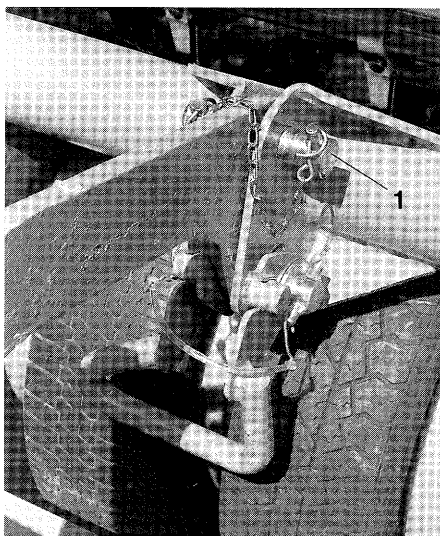
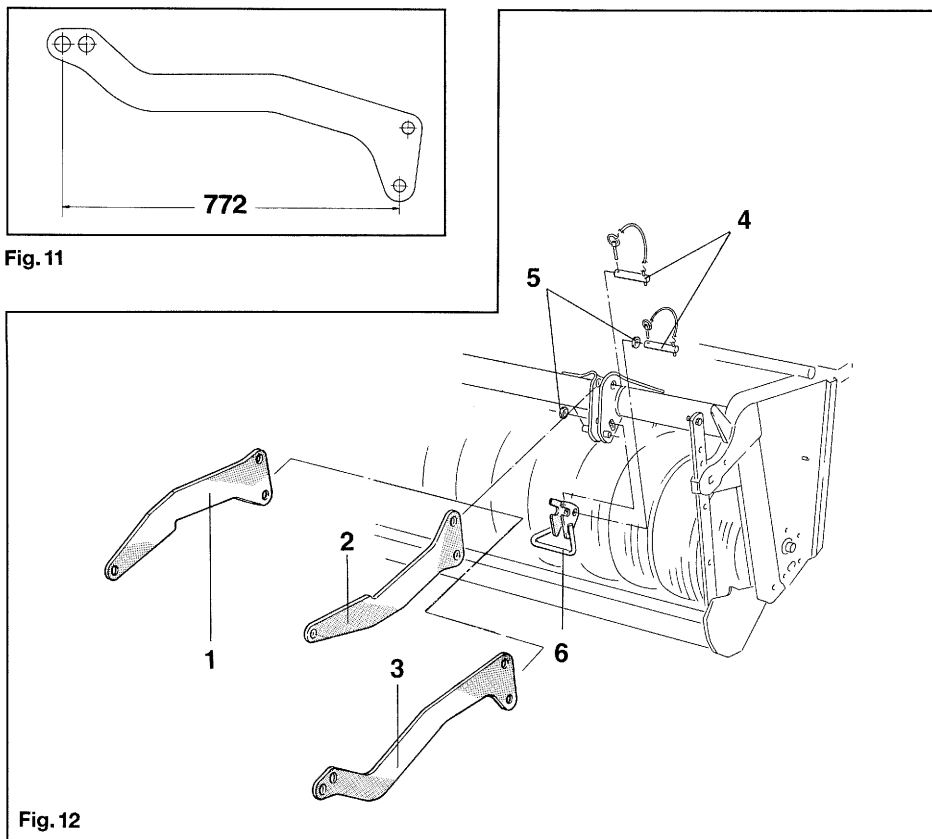

Fig. 13
Fig. 12
-  Attach by pins 2 carrying arms to the lower three point fixing point (Fig. 12).
1. Fig. 12/1 - for rotary cultivator KG, rotary harrows KE and KE-SPECIAL
2. Fig. 12/2 - for reciprocating power harrows RE-1, RE-Vario and RE-DUO
3. Fig. 12/3 - for front harrows VE
-  Every carrying arm should first be fitted to the tyre packer roller with **each 2 pins** (Fig. 12/4) (see also Fig. 13). The two upper pins are necessary for solo-transport, without seed drill and for coupling the pack top seed drill.
1. Two washers (Fig. 12/5) should be slid on to the lower pins to prevent the pins from moving out of the slotted holes of the lower three-point linkage attachment.
2. The braking lever (Fig. 12/6) should be fitted together with the lower left hand pin (see also Fig. 13). In connection with the braking lever the washers (Fig. 12/5) as mentioned under para. 1 are not needed. However, they are vitally necessary whenever the braking lever is dismantled, e. g. for solo operation without seed drill.
Remove the two upper carrying arm pins (Fig. 13/1) of the tyre packer after having mounted the pack top seed drill so that the brake lever (Fig. 28/1) can be activated and the tyre packer pack top seed drill can move freely in the parallel linkage. Adjust the top link (Fig. 27/1) to such an extent that both carrying arm pins can easily be removed.